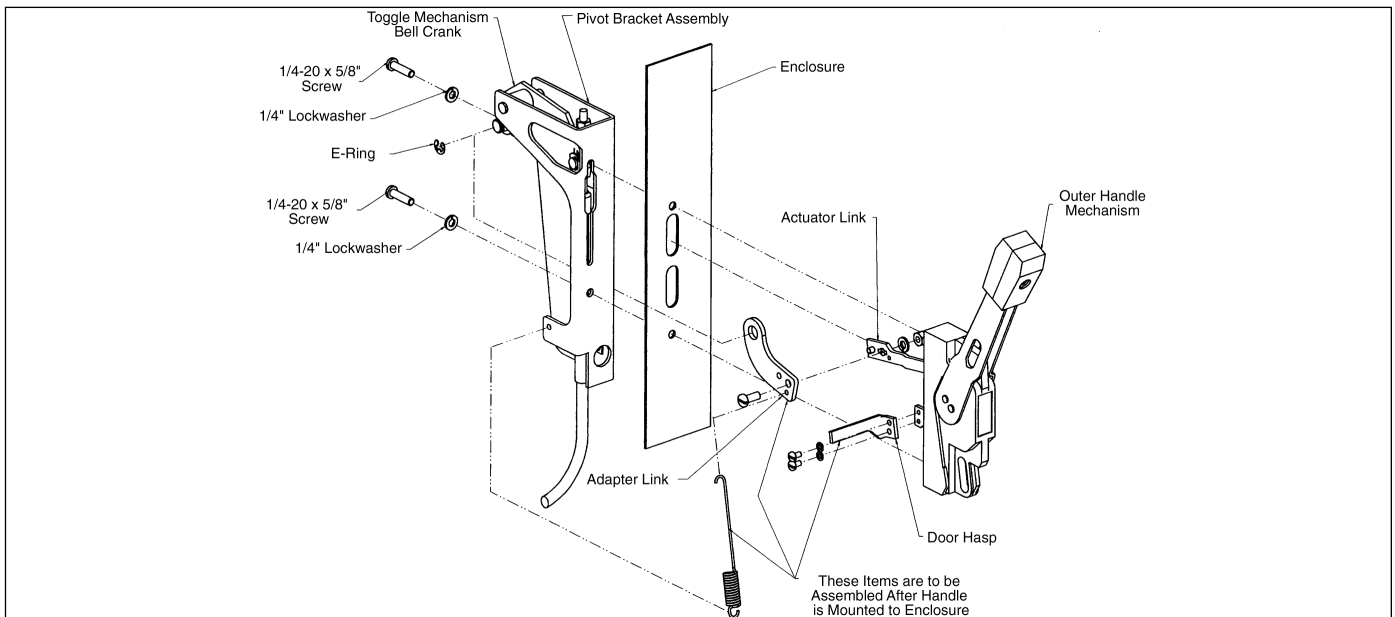

Figure 1-1 Pivot Bracket and Outer Handle Mechanism Assembly
1. Remove the two 1/4-20 x 5/8" screws and lockwashers from the outer handle mechanism. Place each screw and lockwasher through the pivot bracket assembly. Thread the retaining washers enclosed in the parts kit onto the 1/4-20 x 5/8" screws. See Figure 1-1.
2. Connect the actuator link from the outer handle mechanism on the pivot bracket assembly. Mount the pivot bracket assembly to the enclosure and outer handle mechanism by securing the mounting hardware. Attach the E-Ring supplied in the parts kit to the actuator link. See Figure 1-1.